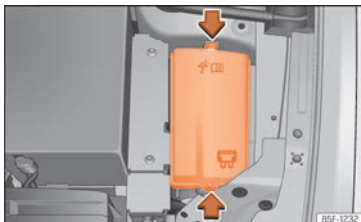

Fig. 56 In the engine compartment: fuse box cover.
- Press the locking tabs to release the fuse box cover » **Fig. 56**.